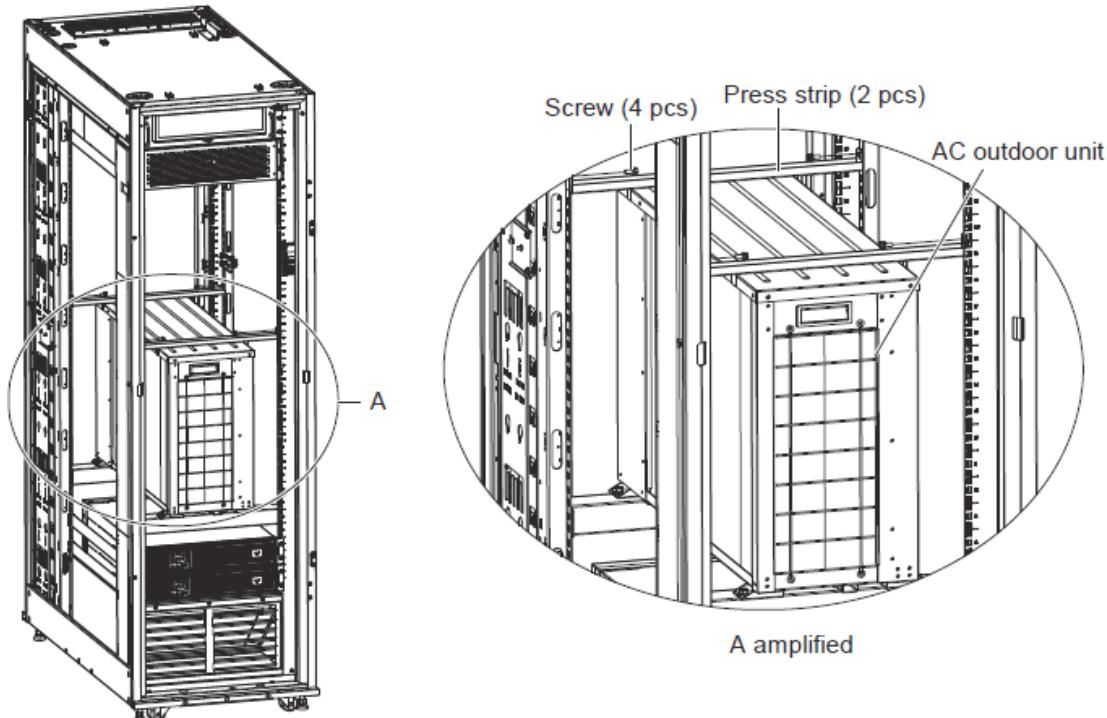

Figure 2-18 Removing the press strips of outdoor unit
1. Remove the four screws on the press strips of the outdoor unit followed by removing the press strips as shown in Figure 2-18.